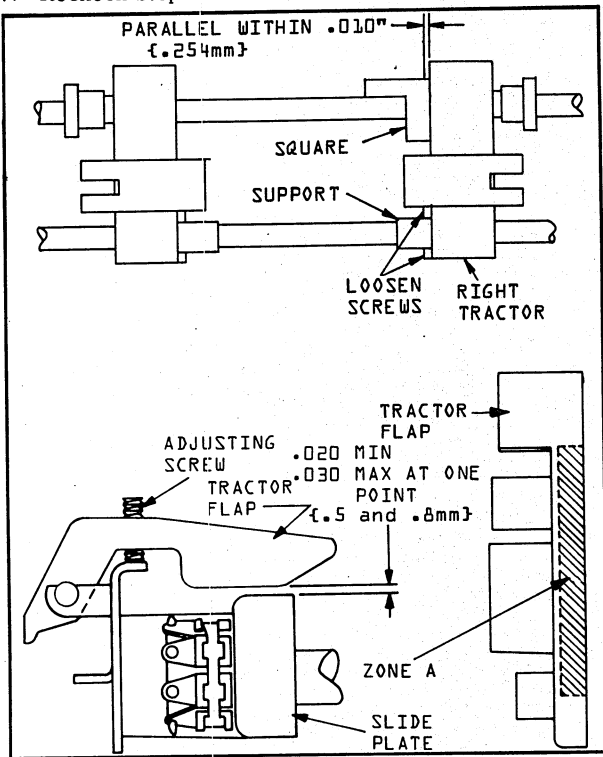

FIGURE 5-21. TRACTOR FLAP ADJUSTMENT
3. Insert a .020 inch (0.5 mm) feeler gauge between the tractor flap and the tractor body. Pass the gauge through Zone A of the tractor flap. (See Figure 5-21).
17. Adjustment of the guide roller to spool clearance is determined by a small tang on the lower switching post guide (see Figure 5-21 C/D). The clearance of the switching clamp hardware is adjusted by rotating the switching clamps (see Figure 5-21 C/D). Loosen the special lock nut at the top of the switching post assembly decreasing spring tension on the assembly. Slightly loosen the hardware holding the switching clamps. Adjust the tang on the lower ribbon guide by rotating the guide to obtain the guide roller to spool flange clearance. Holding the lower ribbon guide in position, adjust the lower switching clamp to obtain hardware clearance with the ribbon, then press the switching clamp down on the lower ribbon guide and snug down the switching clamp hardware. Align the upper switching clamp with the lower switch clamp. Maintain the lower guide and switching clamps positions while tightening the special lock nut on the top of the switching post. Tighten the nut, compressing the spring, until the lower ribbon guide is securely in place when swinging the guide roller against the stop. The guide roller must swing easily. Tighten the hardware on the switching clamps.
3. Adjustment of ribbon tracking is performed by slightly loosening the nuts of the wiper for the guide roller and the eccentric shoulder screws above and below the wipers screw (see Figure 5-21 D). The nuts should be snug enough to maintain the roller position with the ribbon pressure.
5. Raise the ribbon spool and ribbon away from the guide roller. Use a feeler gauge and position the roller wiper between 0.002 and 0.005 inch (.051-.127mm) from the roller and tighten the screw and nut holding the wiper (see Figure 5-21 D).
6. Install the spool and position the ribbon back in place. Operate the ribbon system and recheck tracking, roller access into the spool flanges, and ribbon spool height above drive sprocket if visible. The ribbon spool should not be raised more than 0.020 inch (.51 mm) above the drive sprocket (see Figure 5-21 E).